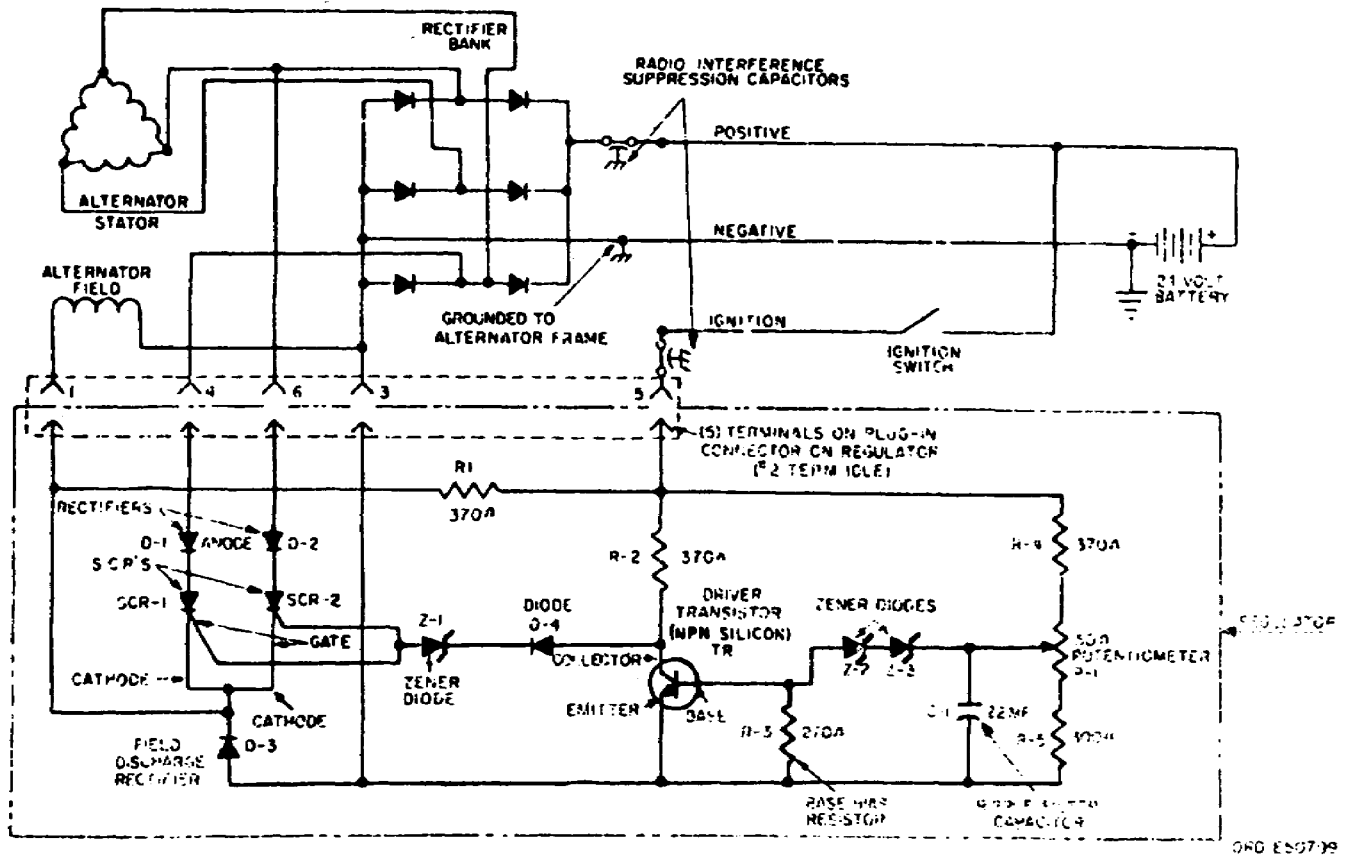

Figure 43. Schematic of regulator.
- d. Generators are equipped with internally mounted regulators that control the output of the generator. The generator, rectifier, and regulator (models 3002AC and 3002AD) are illustrated schematically in figure 43. Operation of the regulator is as follows: